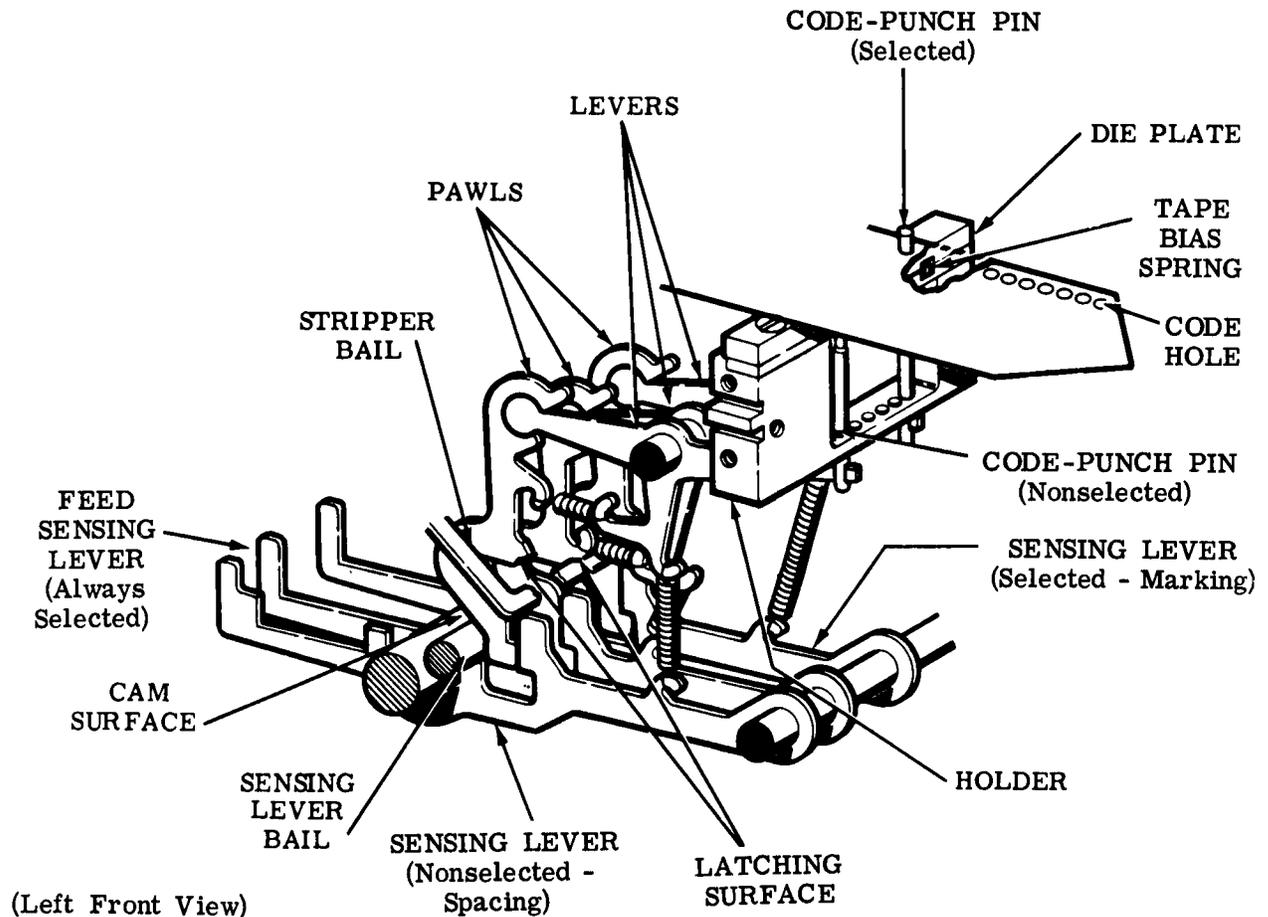

Figure 7 - Tape Punch Mechanism
4.17 The punch block mechanism consists of code-punch pins, a feed-punch pin, holder, die plate, and a tape bias spring (Figure 7). The code-punch pin and feed-punch pin are oriented to the die plate through slots which engage levers for their respective code level. The tape bias spring always biases the tape against one edge of the holder. This results in the code hole and feed hole relation to the tape edge to be held constant.
(a) The auxiliary drive bail consists of two sensing levers, two pawls, two levers, and a shaft, which, when assembled together, form an auxiliary drive bail that drives pre-selected sensing levers (Figure 7).